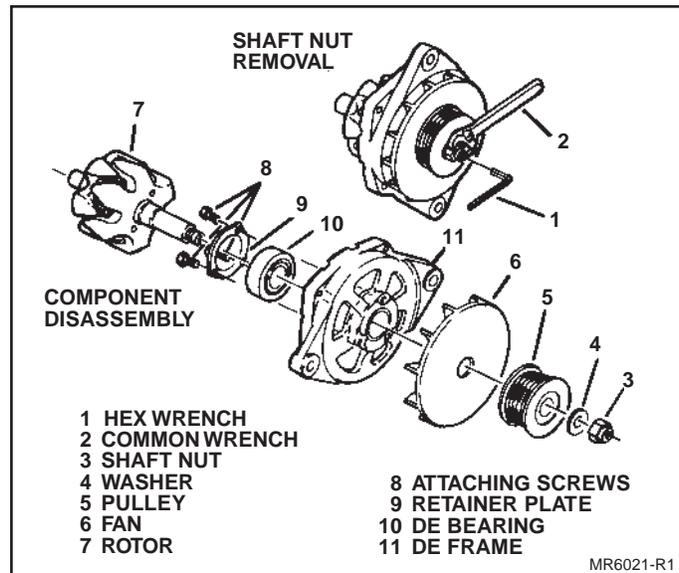

Figure 22. DE Frame and Components
17. Remove shaft nut by placing 5/16" hex wrench in end of shaft to hold while removing nut with common wrench (Fig. 22). Turn nut counterclockwise to remove. If hex wrench is not available, wrap rotor in shop cloth and place in vise, tightening just enough to hold while removing shaft nut.
18. Lift shaft nut washer, pulley and fan from shaft (Fig. 22).
19. Pull rotor from DE bearing (Fig. 22).
20. Remove three attaching screws and bearing retainer plate from DE frame (Fig. 22).
1. DE bearing and bearing retainer plate to DE frame. Install 3 attaching screws (Fig. 22).
2. Rotor shaft into DE bearing (Fig. 22).
3. Fan, pulley, shaft nut washer, and shaft nut onto rotor shaft (Fig. 22). Hold shaft with 5/16" hex wrench in end or wrap rotor in shop cloth and tighten in vise just enough to hold while tightening shaft nut.